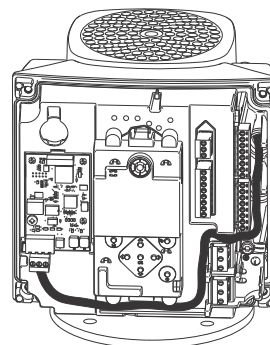

Fig. 76 Example of wire routing
8. Route the wires for the CIM module. See the example in fig. 76.